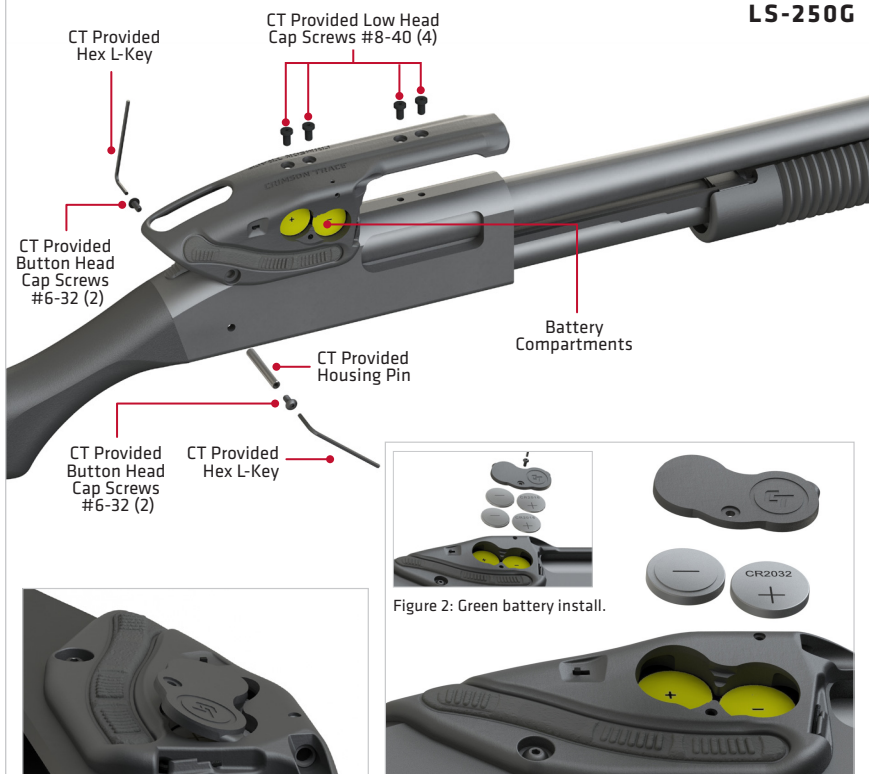

Figure 1: Red battery install.
7. Remove battery cover and batteries located in accessories pack. Insert batteries as indicated in Figure 1. Green laser will stack 2 batteries per compartment (see Figure 2). Insert battery cover at an angle (see Figure 3). Screw into place using CT provided screw.